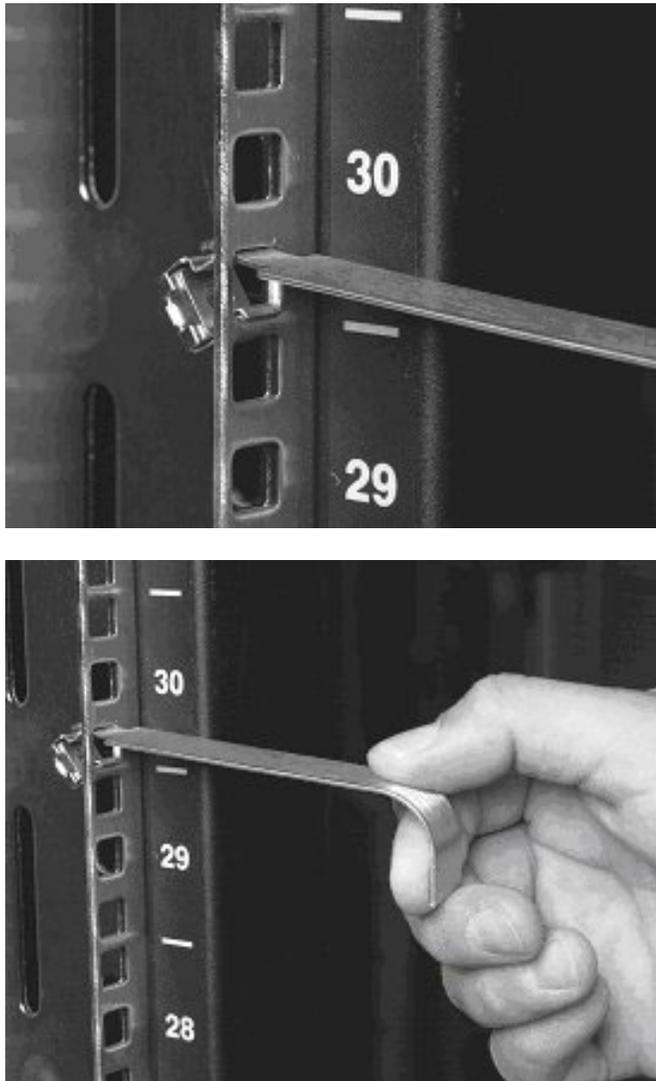

Figure 4.1 Installing the Cage Nuts
To install cage nuts, insert one curved edge into the square hole, and use the cage nut tool to pull the other end through the square hole as shown in Figure 4.1.
3. Install cage nuts for the Thunder 9500V (see Figure 4.1). For additional information on installing cage nuts, refer to sections 4.2 and 4.3.